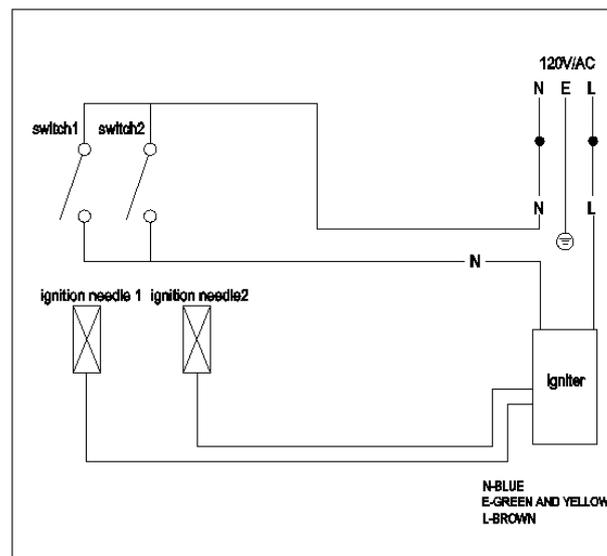

Figure 18(for the appliance with two burners)
- 6) Test the outlet pressure, the pressure is required to be  $10 \pm 1$  in wc. If it cannot meet the scope of the requirements, need to unscrew the pressure regulator nut as Figure 18, rotate slightly to adjust the white plastic parts inside the pressure regulator.
- 8) Similarly, when use in NG status, turn the marked NG arrow upwards and tighten it to the screw cap (see Figure 18). Repeat the above operation. The outlet pressure requires to be  $4 \pm 1$  in wc.